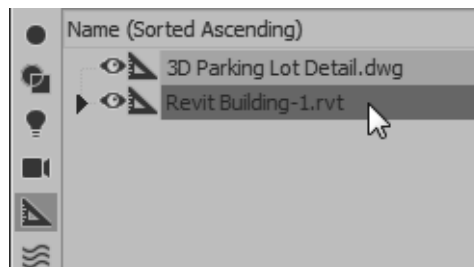

Figure 3–40
14. In the Scene Explorer, click (Display None) and (Display Helpers), if required, and then select the helper object **Revit Building-1.rvt**, as shown in Figure 3–40.